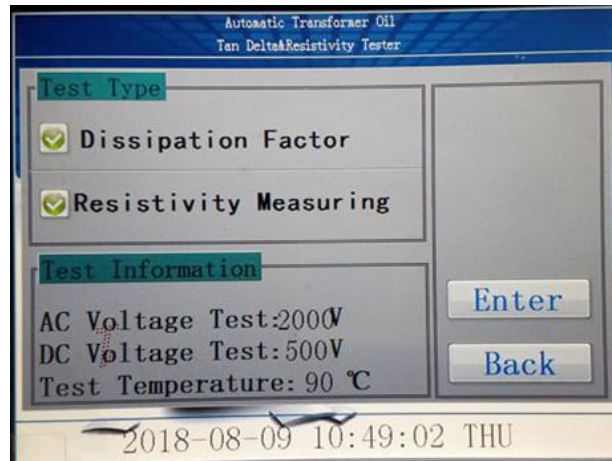
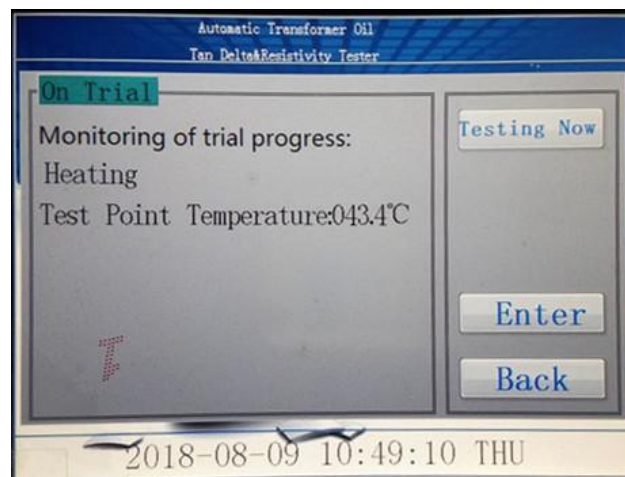

figure 6
figure 7
6. Under the figure 3 interface, click the empty cup test into Figure 6. The empty cup test is mainly to verify the cleanliness and assembly of the oil cup before oil injection. The dielectric loss factor and relative capacitance and volume resistivity can be selected. The test or non test can be selected by clicking the cursor in front of the test project. The smaller the air cup, the smaller the better. After selecting the test item in Figure 6, you can enter the figure 7 after clicking on the test item. In Figure 7, the device can be measured at the set of 90, and can also be tested at the temperature at that time.
After the empty cup has been tested, the inner electrode of the cup is removed and placed on the oil cup, and the oil sample to be measured is placed in the oil cup. (note that the injection of the oil sample must not appear when the bubble is not appeared, should be slowly injected along the cup wall). After the injection of the oil sample, the inner electrode of the oil cup is slowly placed in the position. (move to slow, prevent action too fast, exhaust not timely, overflow the oil sample), pick up the measurement signal line and temperature signal line, click the automatic test in Figure 3, enter the interface of Figure 6 and Figure 7 interface, the general measurement oil is measured according to the regulation 90 C, and also can choose the immediate test at the current temperature.